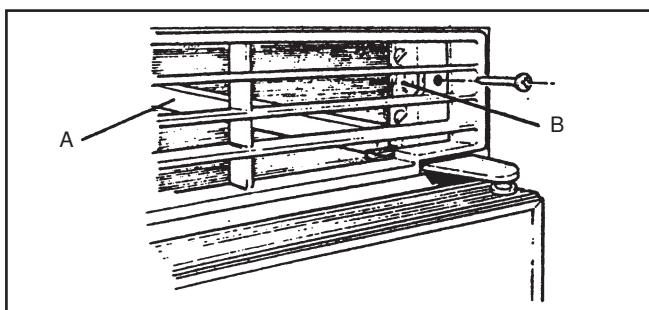

Fig. 4
A ventilator for fitting above the door as shown in fig. 4 is supplied with the refrigerator. The connection pipe, gas cock, and connectors are not supplied as the sizes of these may vary to suit particular installations. The appropriate parts should, however, be readily available from the refrigerator supplier or an Agent dealing in gas fittings 9see note in item 11).
Alternatively, wooden battens may be screwed to the sides of the recess, from front to back, bearing down on the top of the cabinet to hold it firmly, as shown at A, fig. 4. Whichever method is used, it must be possible to remove the refrigerator easily for subsequent servicing purposes. The brackets or battens must be in a position where they will not restrict the air circulation over the cooling unit; they must not be positioned across the cabinet over the fins of the condenser of the cooling unit at the rear, otherwise air-flow will be impaired and performance affected.
To fit the upper ventilator, screw a block of wood approx. 25 mm (1") square x 66 mm (2 5/8") long, to each side of the recess, 16 mm (5/8") back from the front edge, as shown at B, fig. 4. Secure the ventilator to the blocks with a screw through the hole provided at each end.